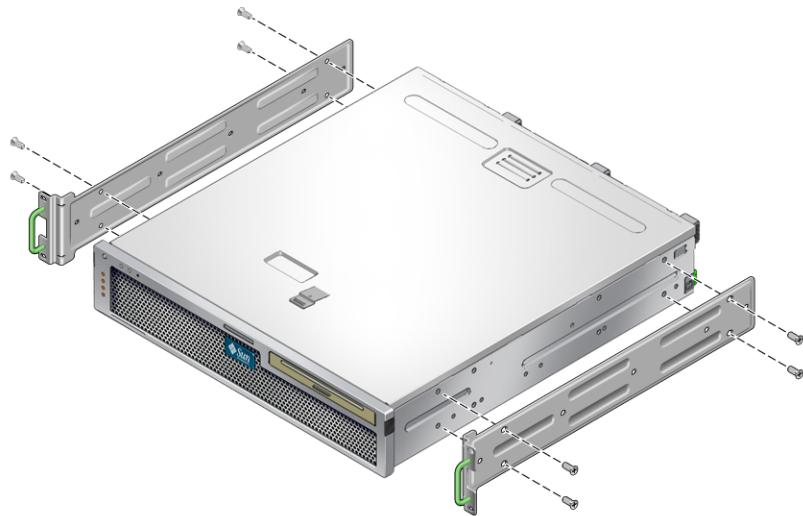

FIGURE 2-7 Securing the Hardmount Brackets to the Server
2. **Use four of the supplied M5 x 4.6 mm Phillips flathead screws to secure each of the hardmount brackets to the sides of the server (FIGURE 2-7).**